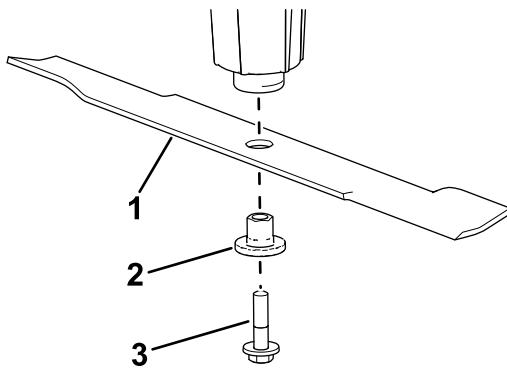

Figure 25
4. Remove the blade bolt, bushing, and blade from the spindle shaft (Figure 25).